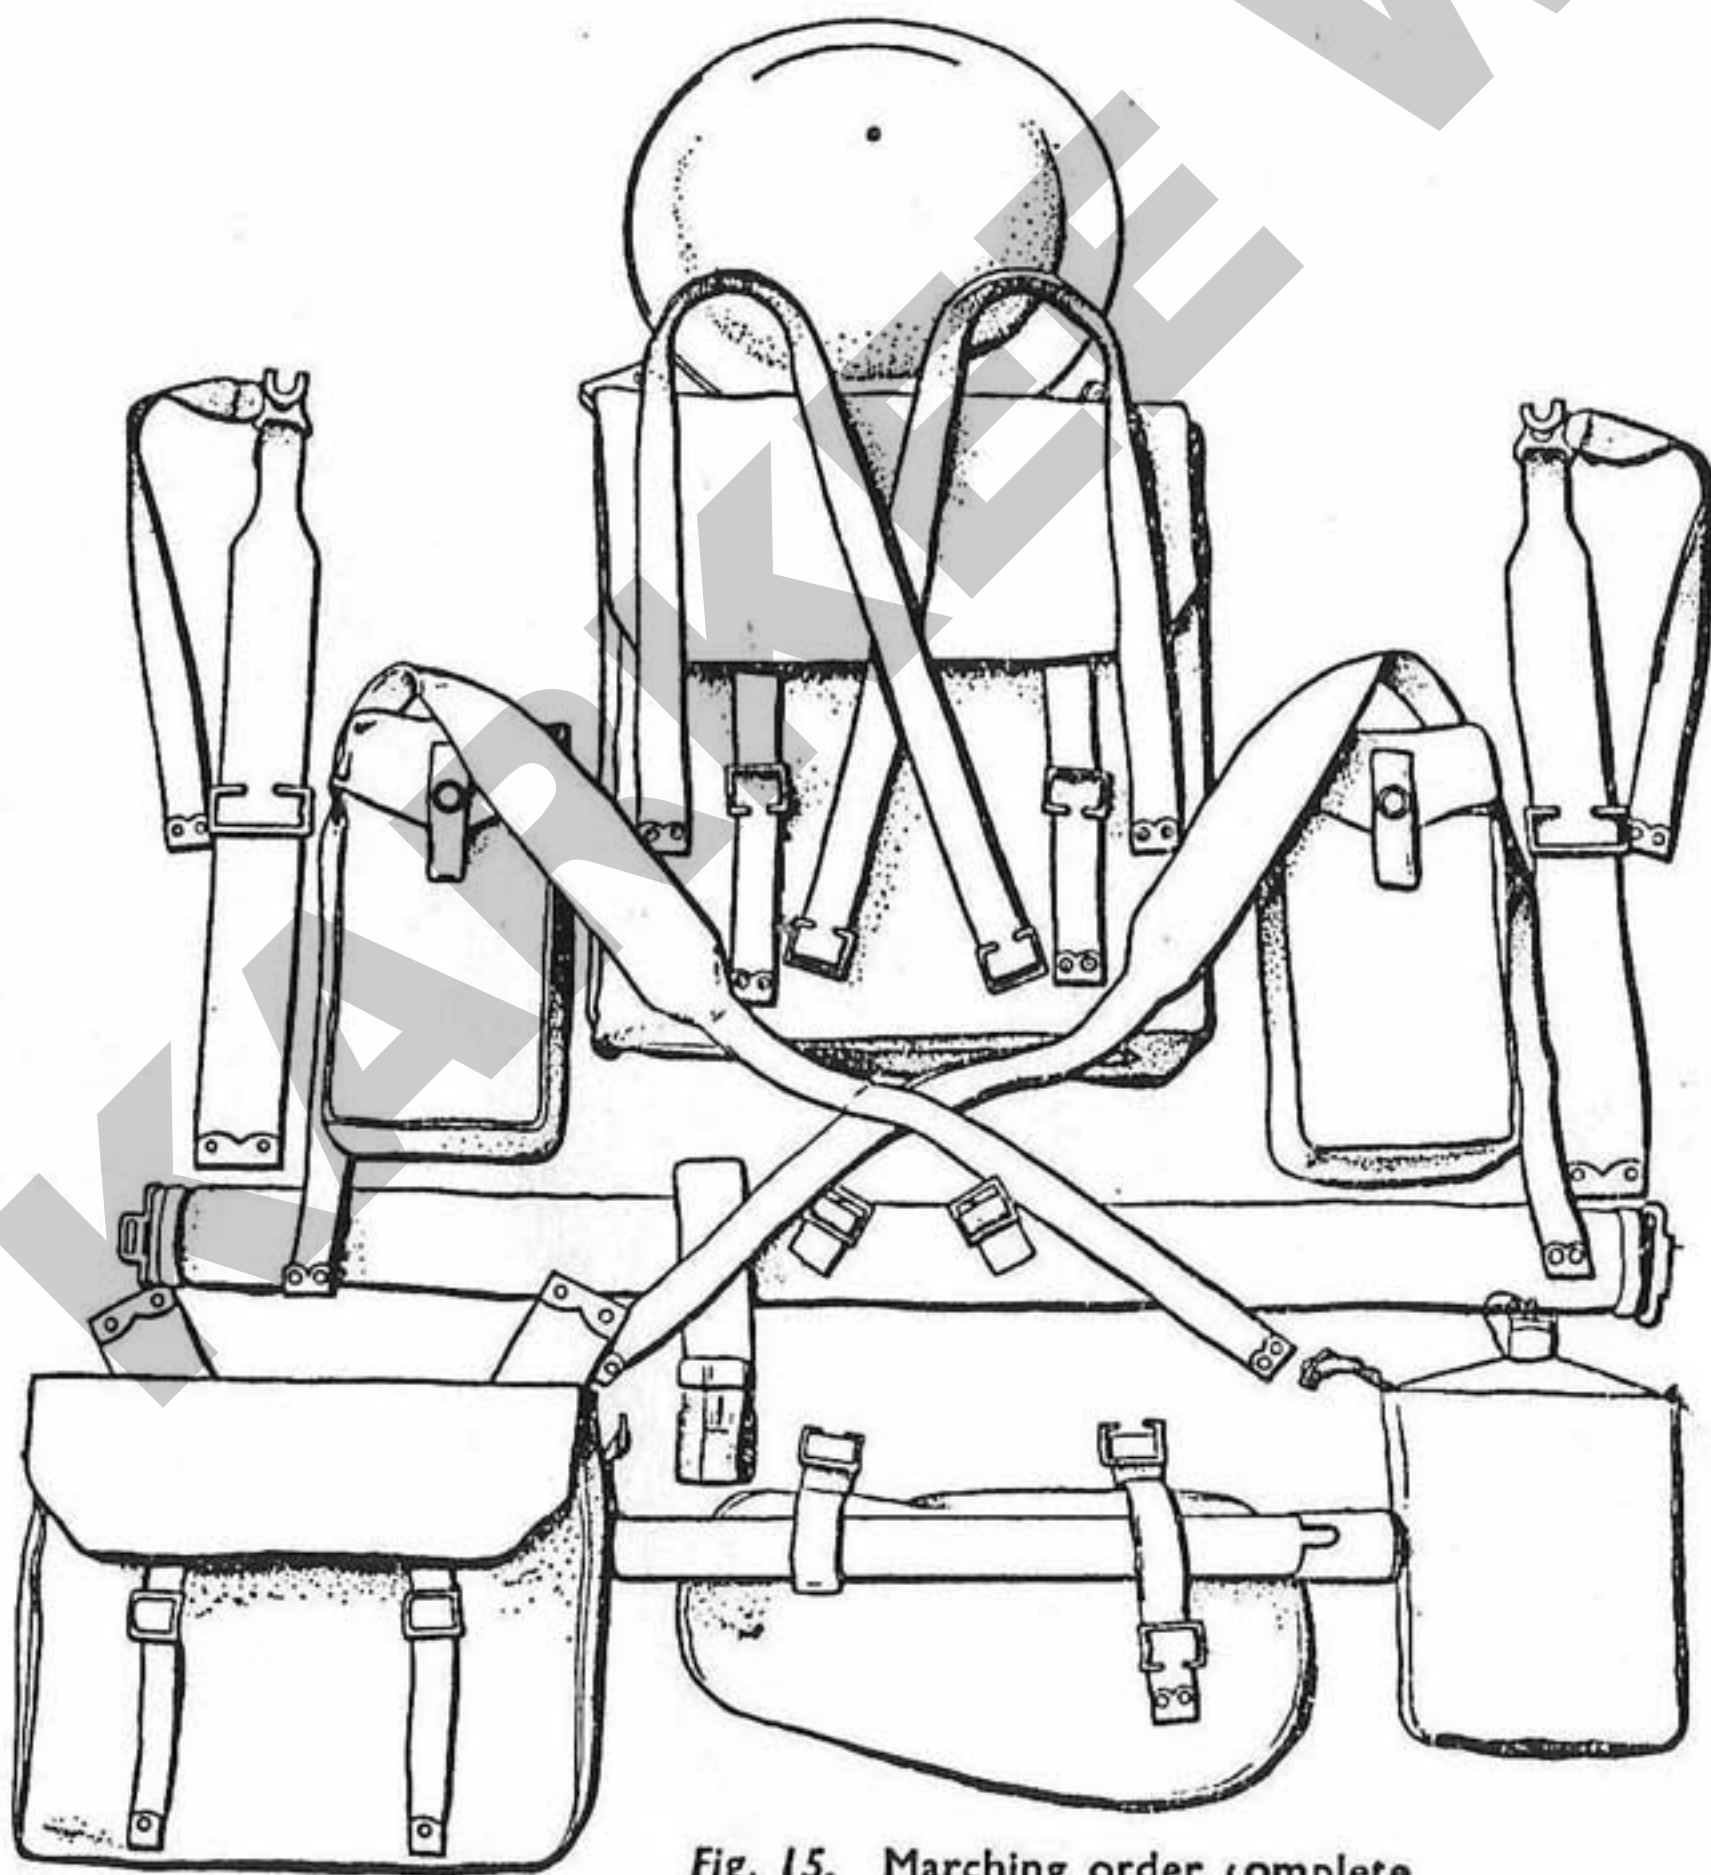
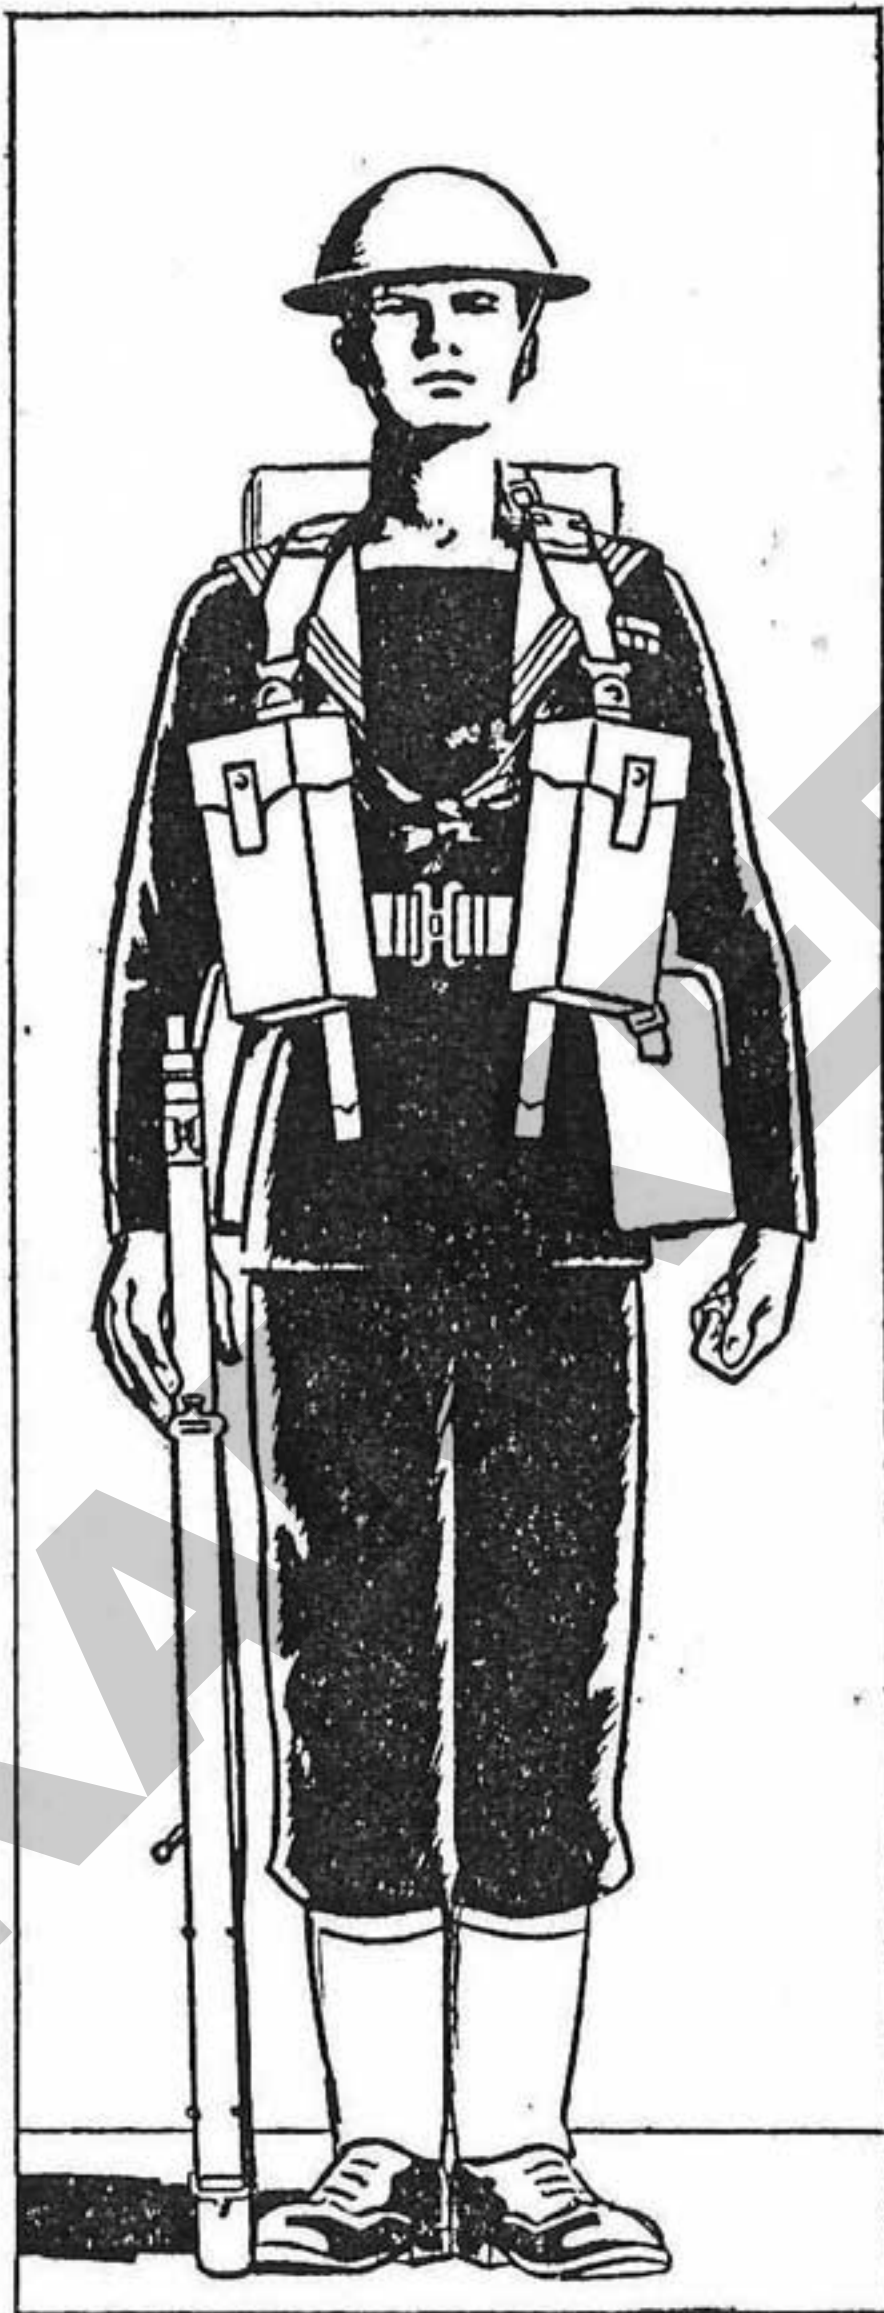
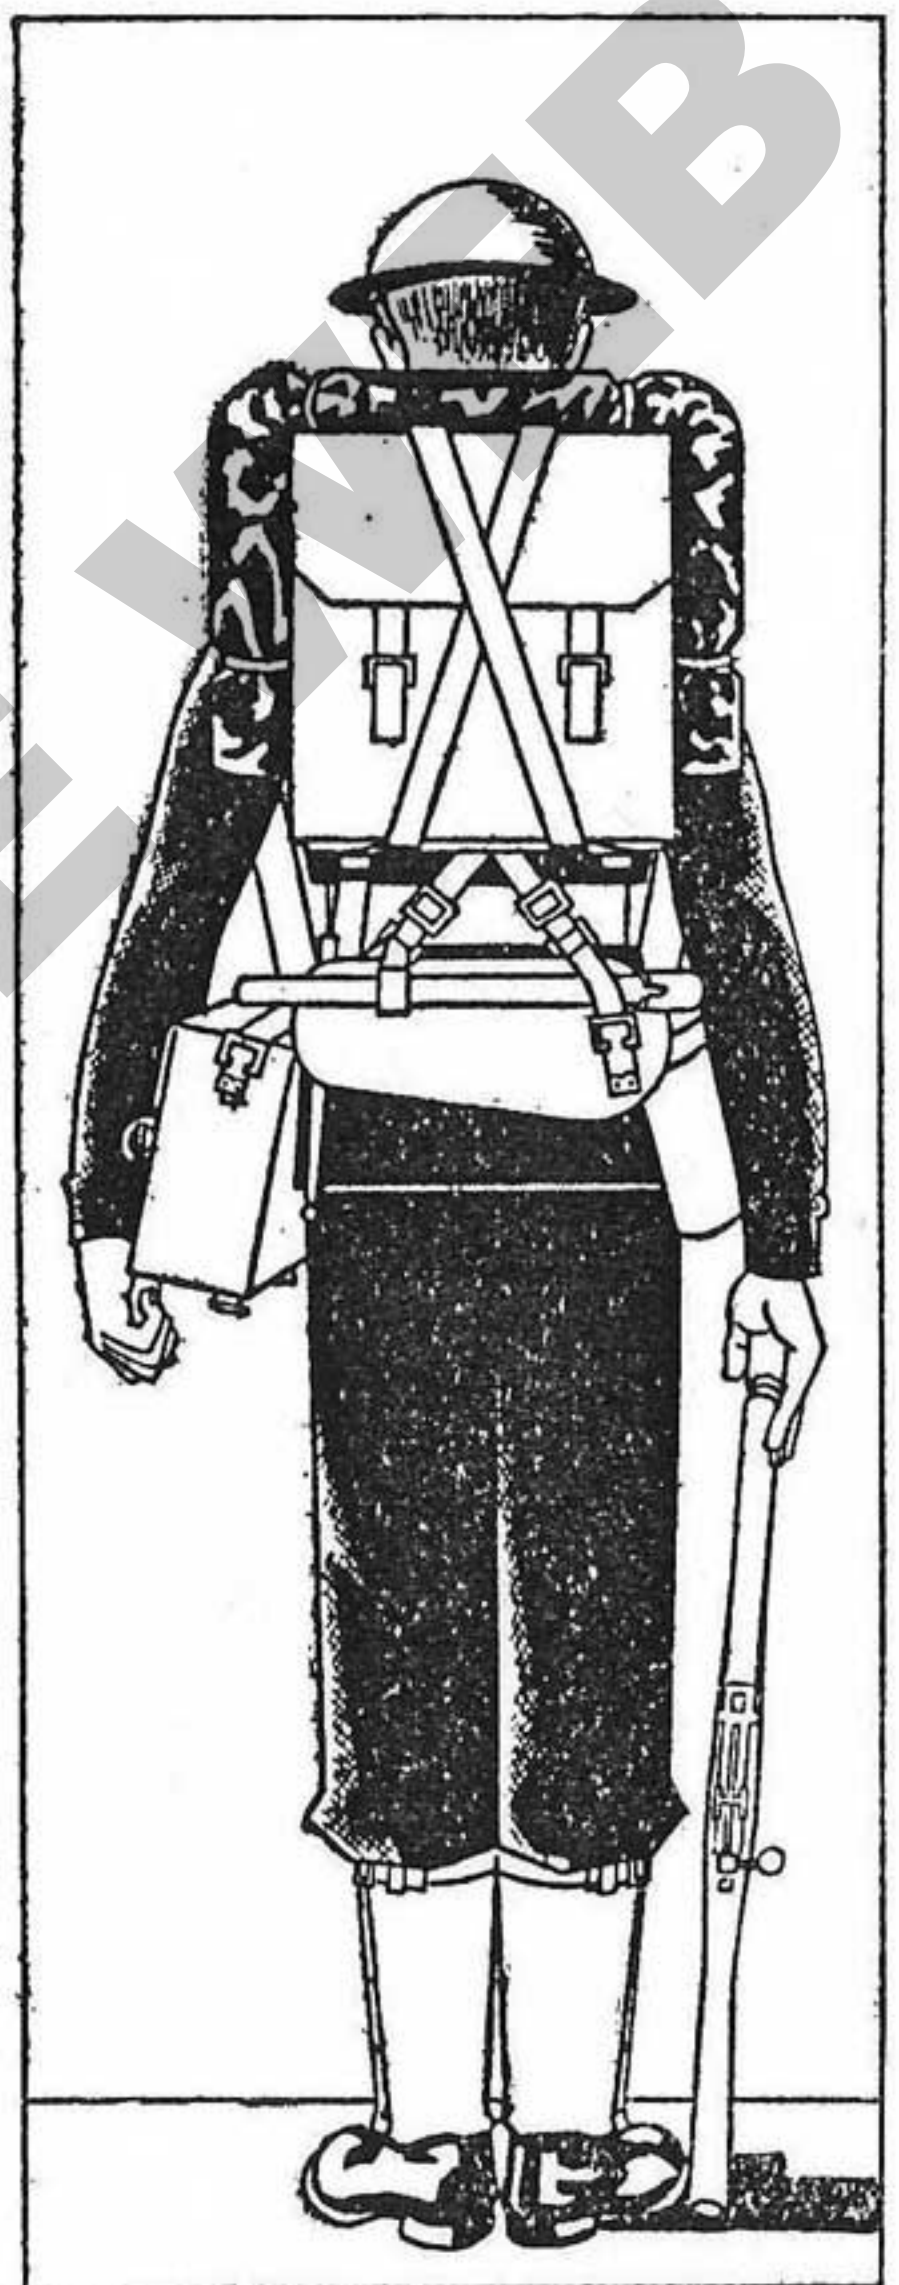

Fig. 15. Marching order complete
Fig. 16. Marching order—front view
Fig. 17. Marching order, rear view, showing oilskin rolled and secured to the pack
19. Fig. 15 shows a complete marching order laid out and ready to be assembled. The pack is carried on the back and the haversack moved to the left side. The ends of the braces, front and rear, left side, are secured to the buckles of the haversack and those on the right side are fitted, in a similar way, to the water bottle carrier. Figs. 16, 17 and 18 show different views of the fitted marching order, Fig. 17, in addition, showing the method of rolling an oilskin and securing it around the pack.
20. Lanchester order is the same as marching order (see Fig. 15) except for the substitution of Lanchester for basic pouches, ensuring that the Lanchester pouch with the small pocket for the magazine tool is worn on the *right* side.